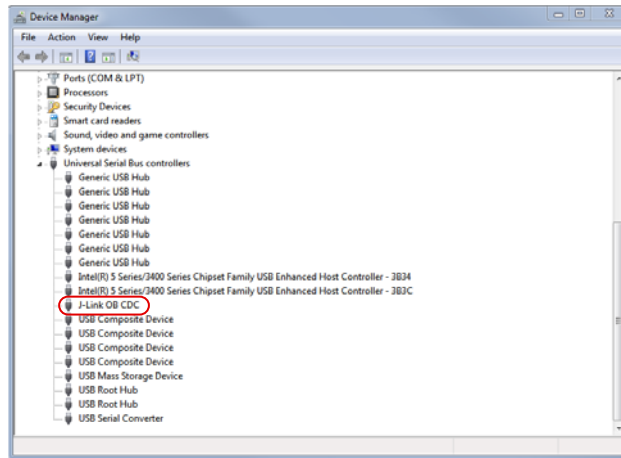

Figure 2. Device Manager Window
3. Verify that the emulator board appears in the Windows® **Device Manager** window (see Figure 2).